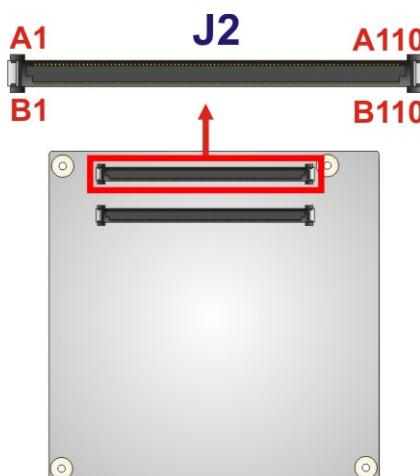

Figure 3-3: COM Express A-B Connector Location
**CN Location:** See Figure 3-3